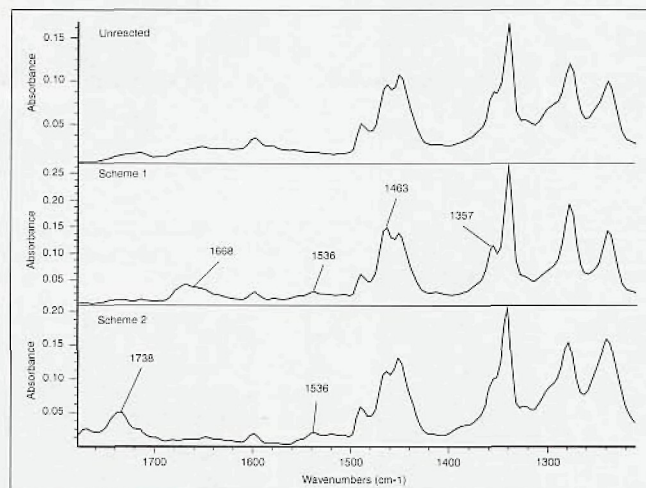

Figure 2: Infrared ATR spectra of top) unreacted bead, middle) Scheme 1 reacted bead, and bottom) Scheme 2 reacted bead
**Scheme 1:** The reaction product can be characterized from the infrared spectrum (middle spectrum, Figure 2). Spectral bands from the bead substrate can be seen (top spectrum, Figure 2), but new features have appeared in the spectrum of the reacted product. The appearance of a band at 1668  $\text{cm}^{-1}$  is indicative of the amide I stretch. The band at 1536  $\text{cm}^{-1}$  represents the amide II vibration. In addition, the growth of the bands at 1463  $\text{cm}^{-1}$  and at 1357  $\text{cm}^{-1}$  show an increase in the amount of  $\text{CH}_3$  present.
**Scheme 2:** The reaction product spectrum is the bottom spectrum shown in Figure 2. Again, spectral bands from the bead substrate are visible, but there are new bands present. The carbonyl stretch apparent at 1738  $\text{cm}^{-1}$  is indicative of the carbamate product. In addition, the appearance of a band at 1536  $\text{cm}^{-1}$  is due to the CNH group.